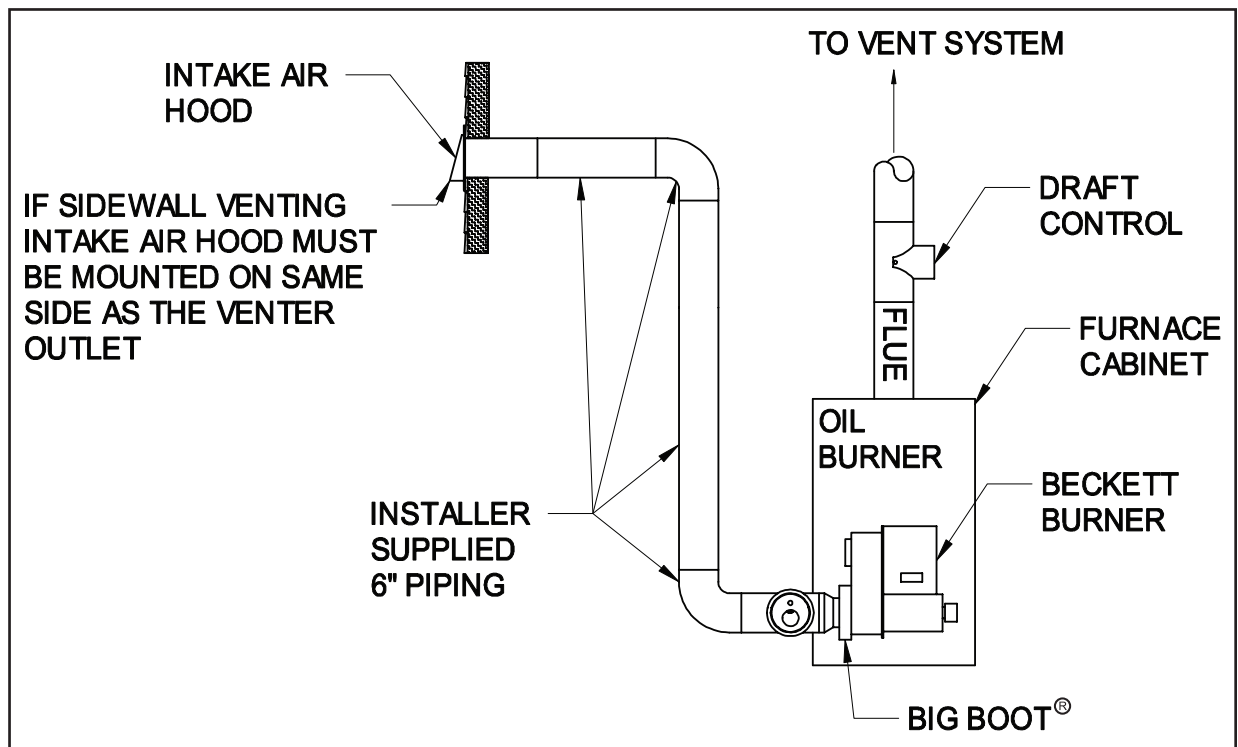

Figure 6
5. Refer to Figure 6 for general installation layout.